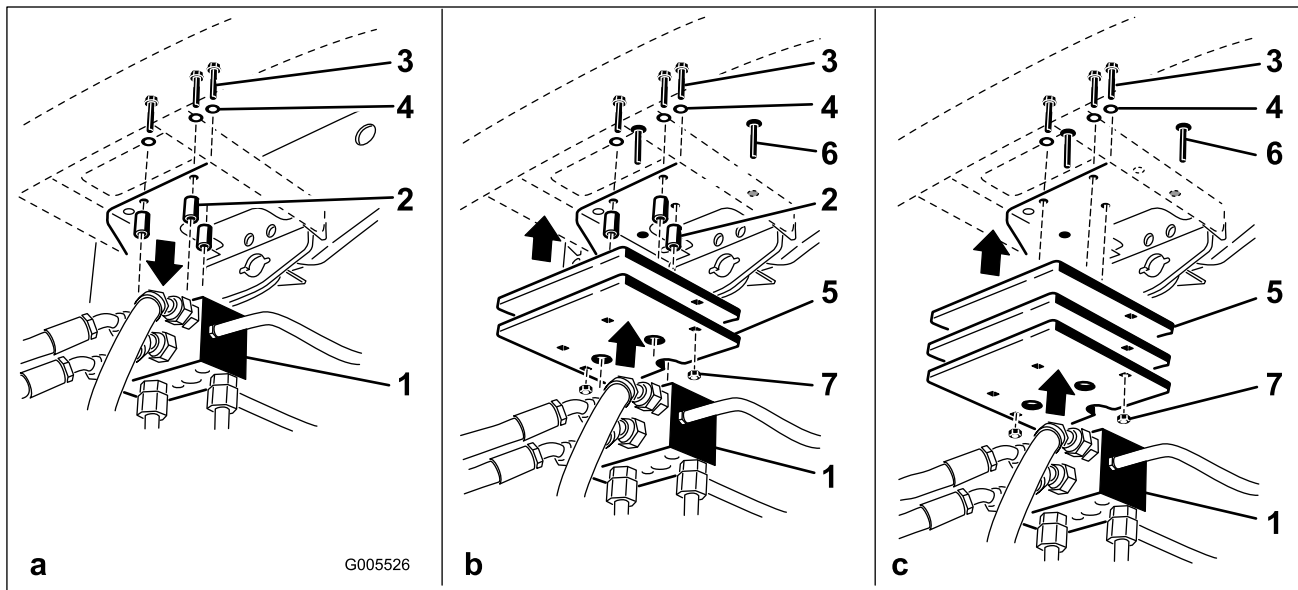

**Figure 15**
**On two wheel drive models,** mount the appropriate amount of weight (see weight charts) to the top or bottom of the rear bumper as shown in Figure 15.